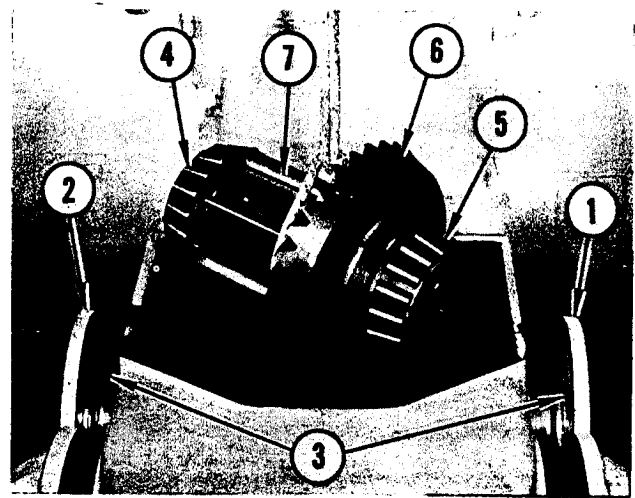

FIGURE 98. RING GEAR DISASSEMBLY
Attach sling and hoist to bull pinion assembly. Refer to Figure 98. Remove four capscrews and lockwashers from R.H. bearing cage (1). Remove bearing cage and shims (3) from final drive housing. Remove "O" ring from bearing cage. Keep shims with bearing cage. Remove four capscrews and lockwashers from L.H. bearing cage (2). Remove bearing cage and shims from housing. Keep shims with bearing cage. Remove "O" ring from bearing cage. Remove bearing cups from both bearing cages. Remove bearing cones (4) and (5) from shaft. Press spiral bevel ring gear (6) from shaft. NOTE: It will require a force of approximately 75 tons to remove ring gear. Remove square key and spacer from bull pinion shaft (7).